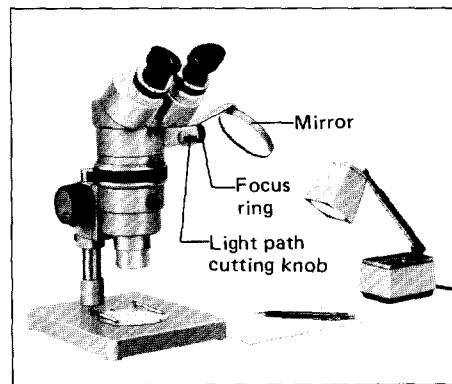

Fig. 22
2. Drawing tube (Fig. 22)
- ① Place a sheet of drawing paper (size: up to A4 or so) under the mirror.
- ② Pull the light path cutting knob toward the operator.
- ③ Looking into the observation tubes, bring the specimen image into focus.
- ④ Put a pencil on the paper. Rotating the focus ring, focus to the image of the pencil. Covering the objective with the hand will facilitate focusing in this case.
- ⑤ Now, the images of the pencil and specimen will be seen superimposed on the paper, permitting tracing the specimen image with the pencil.